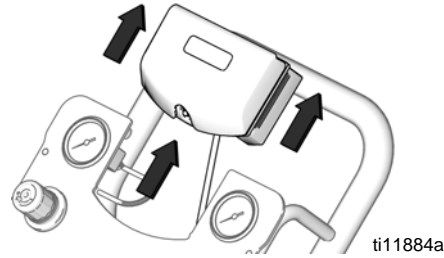

Fig. 4. Remove DataTrak from Murker Air Motor
3. Remove DataTrak module from bracket. See Fig. 4. Take module and attached cable to a non-hazardous location.